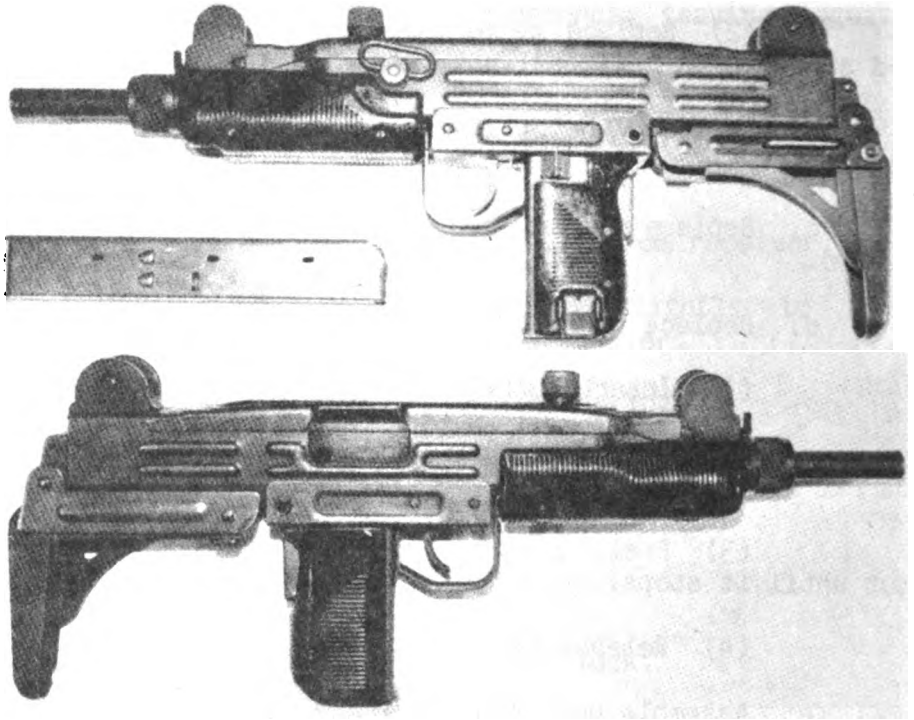

Figure 2
(1) Lower it over the receiver.
(2) Press cover down until it is locked by the cover latch.
5. Maintain Magazine. (See fig. 2.) (Follow procedures and use materials prescribed for the German G3A4 rifle, task number 331-915-0074.)